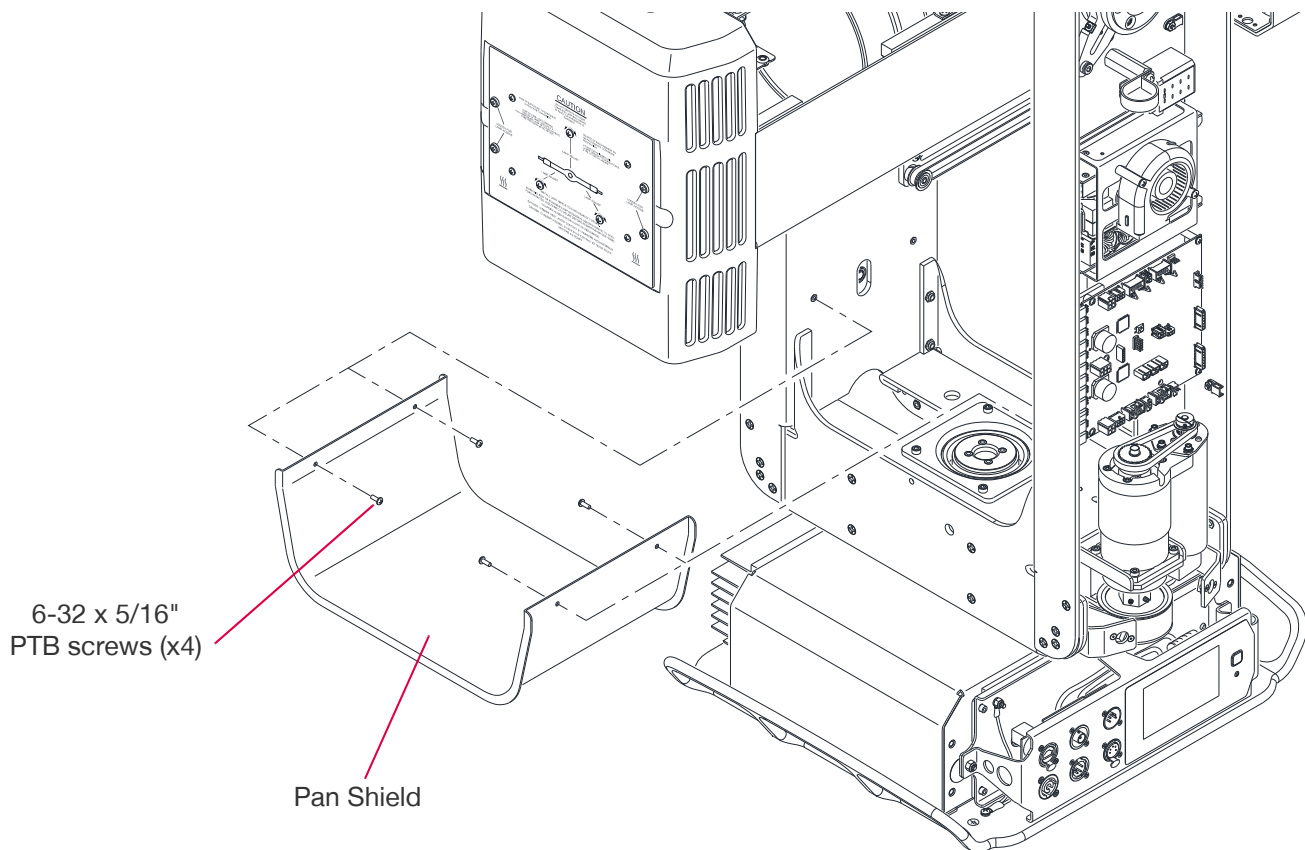

Figure 3-50: Removing the PAN Shield
- Step 3. Rotate the Head perpendicular with the Yoke arms. Remove the Pan Shield by removing the four 6-32 x 5/16" PTB screws from it and lifting up, as indicated in the image below, **Figure 3-50**.